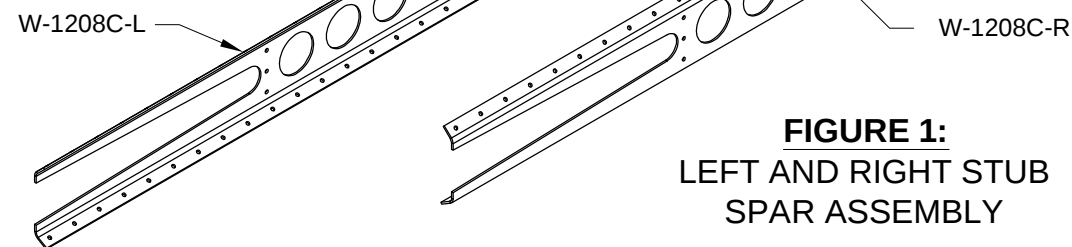

FIGURE 1:
Step 1: Cleco one W-1208B Stub Spar Doubler to each of the W-1208C-L & -R Stub Spar Channels, on the outer web (opposite the direction that the flanges are bent), as shown in Figure 1. Mark the stub spar doublers as left and right per call out in Figure 1. Refer to the stub spar doubler and channel as the Left and Right Stub Spar Assembly.